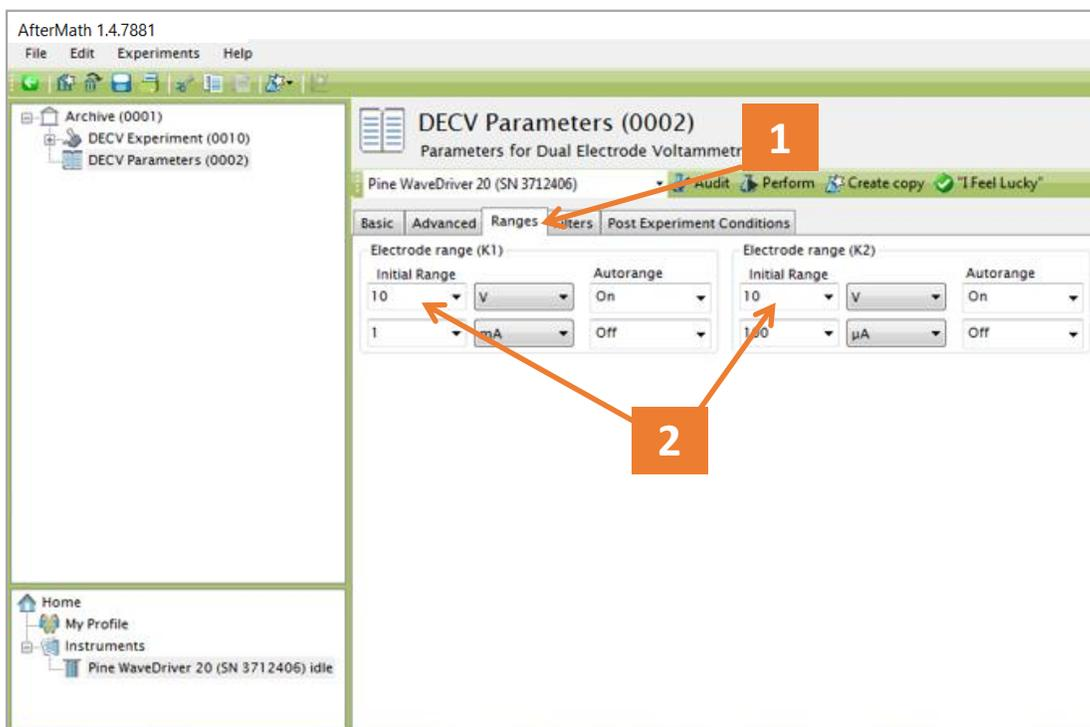

Figure 4-10. Adjusting the Potential Range on the "Ranges" Tab
1. Click the “Ranges” tab (see: Figure 4-10).